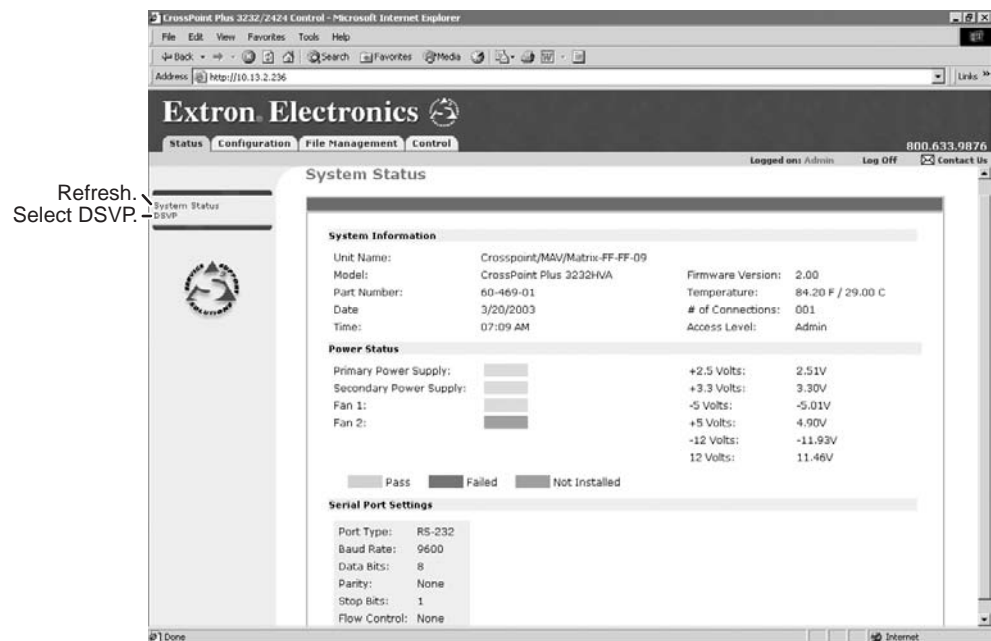

Figure 6-2 — System Status page
- c. If neither of the above conditions is true, the switcher downloads the factory-installed default startup page, "nortxe_index.html" (figure 6-2), also known as the System Status page.
The System Status page (figure 6-2) provides an overall view of the status of the matrix switcher, including the primary and secondary power supply status, the individual voltages, and the fan status (if applicable). The System Status page is the default page that the switcher downloads when you connect to the switcher. Access the System Status page from other pages by clicking the *Status* tab.